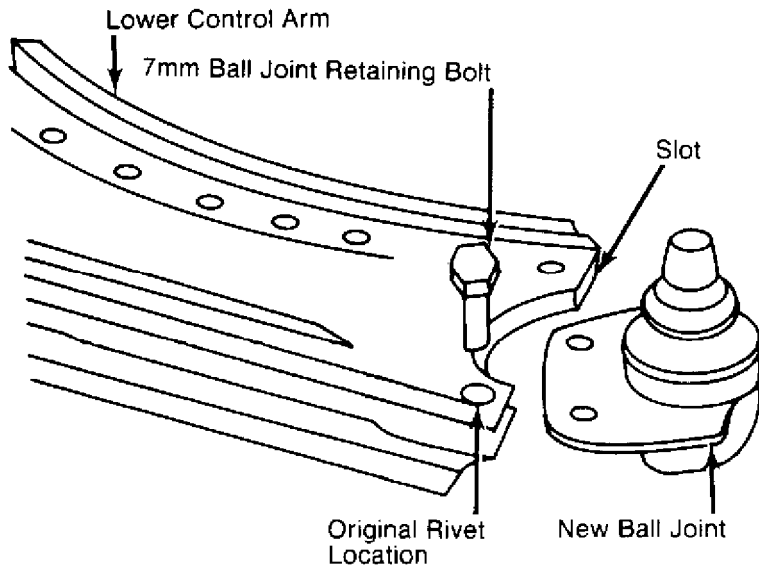

Fig. 3: New Ball Joint Installation on Lower Control Arm
2) If control arm is not being removed and ball joint is riveted to control arm, drill out ball joint rivets with a 9/32" (7 mm) drill. After drilling rivets, it still may be necessary to chisel off rivet heads. Remove ball joint. See Fig. 3.